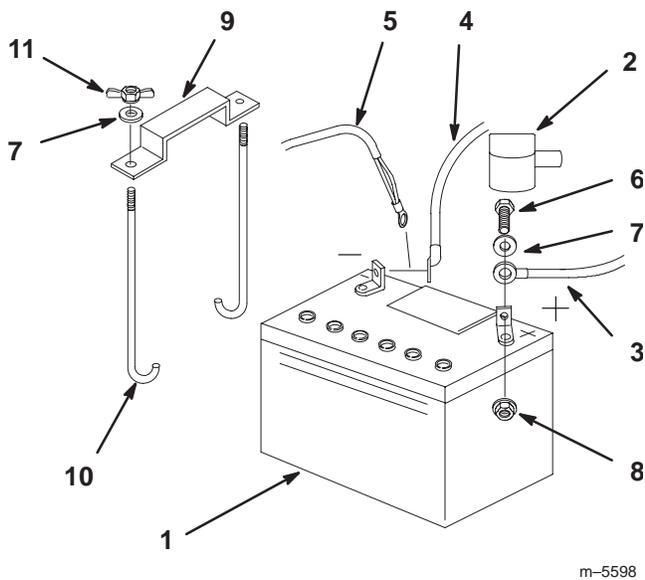

Figure 57
1. Position battery in tray with terminal posts toward the engine (Fig. 57).
4. Secure cables with 2 bolts (1/4 x 3/4 in.), 2 washers (1/4 in.), and 2 locknuts (1/4 in.) (Fig. 57).
6. Secure battery with J-bolts, hold down clamp and 2 washers (1/4 in.), and 2 wing nuts (1/4 in.) (Fig. 57).
3. First disconnect the negative battery cable and ground wire from the negative (-) battery terminal (Fig. 57).
4. Slide the red terminal boot off the positive (red) battery terminal. Then remove positive (red) battery cable (Fig. 57).
5. Remove both wing nuts (1/4 in.) securing the battery clamp (Fig. 57).